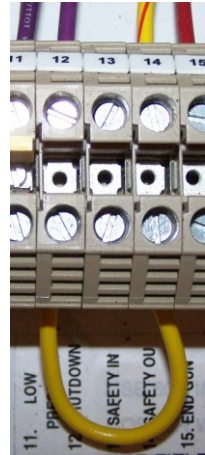

Figure 4
STEP 5 - Install new wire jumper between TB12 & TB14 (Figure 4).